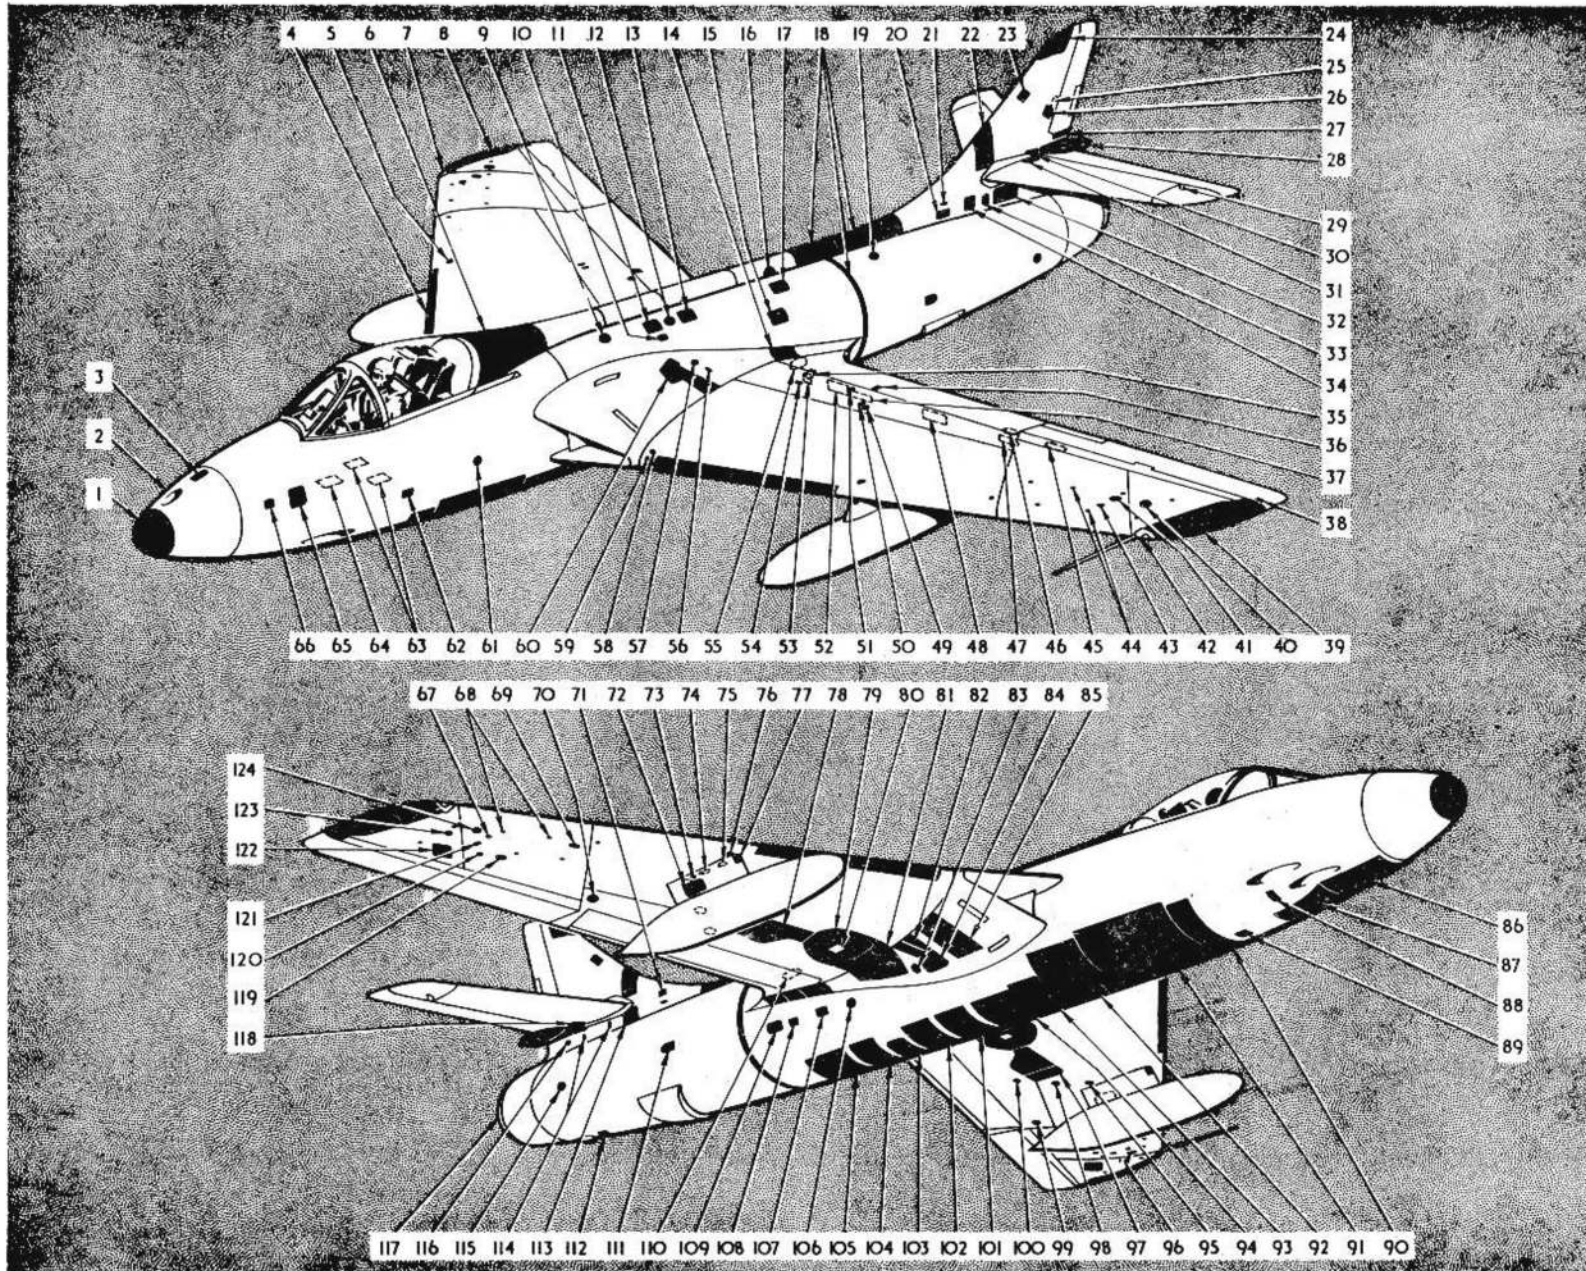

FIG. 2 ACCESS PANELS
5. The location of the access doors and removable panels are shown in fig.2, the components to which they give access being given in the key. When handling the doors and panels, care should be taken to ensure that they are not damaged or distorted in any way. When re-fitting them, ensure that they fit flush with the surrounding surface and that they are secure and effectively locked.
KEY TO FIG.2 ACCESS PANELS